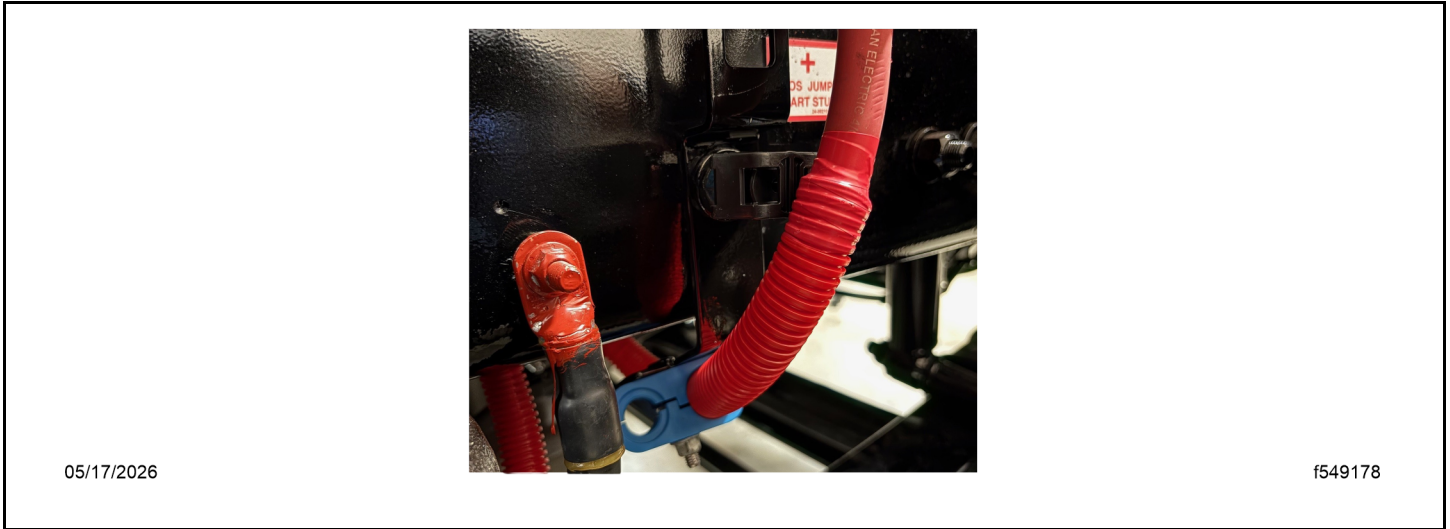

Fig 42, Routing Over the Tie Block
28. Install the 5/8-inch (16-mm) tie block (23-13805-062) on the bottom isolator bracket frame bolt so the cable routing can be set passing by it. See Fig. Fig. 42.